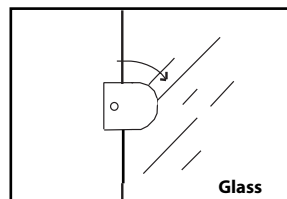

Fig. 2.
2. Turn the two securing brackets back to their original position to retain the glass and tighten the screws (Fig. 2).